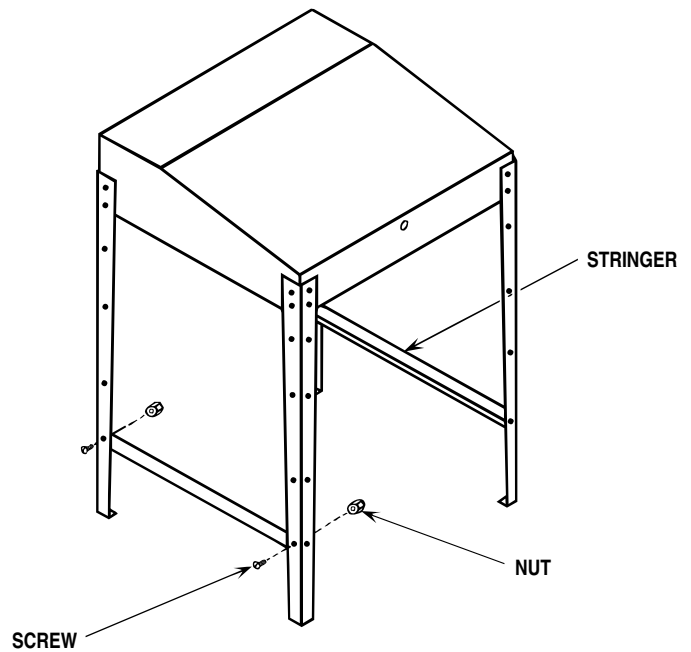

FIGURE 3
4. Making sure hands are clear, CLOSE TOP and stand desk upright. Attach stringers (Item 4) with four (4) nuts and screws (Items 6 & 7) - two (2) each side - in the bottom holes on the inside of the leg assembly. See Figure 3. **Finger tighten only.**